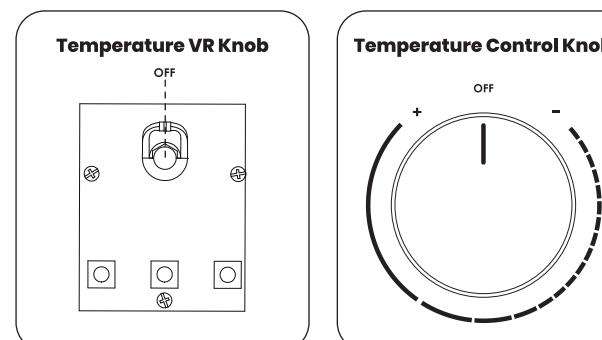

Fig. 7
2. Replace the front cover and turn the Temperature Control Knob at the front cover to "OFF" position to align with the VR Knob (Fig. 7).